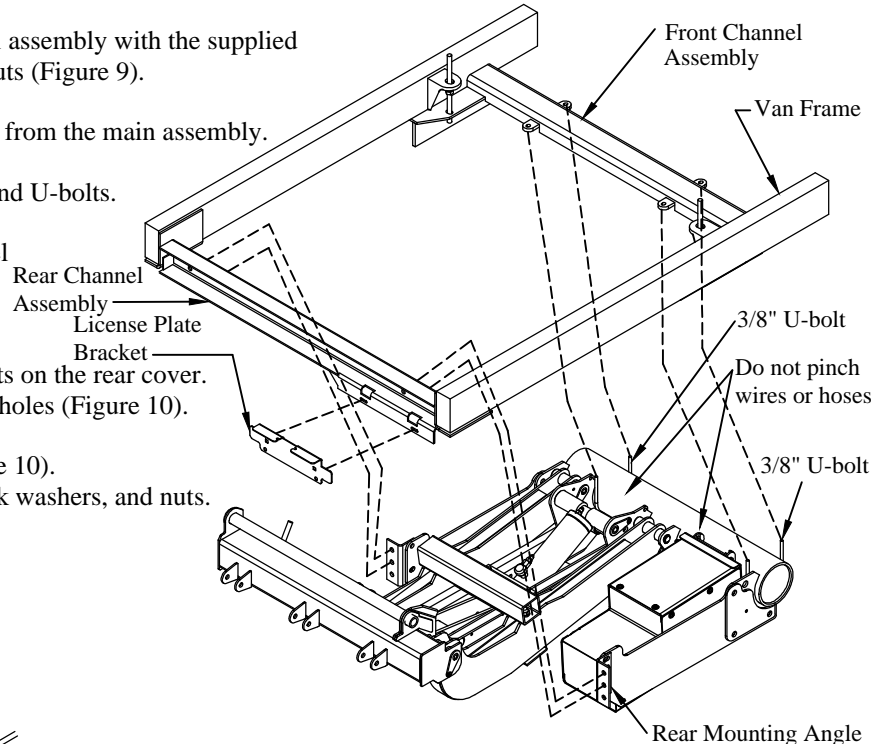

Figure 9: Main assembly position on frame.
5. **Attach** the 3/8" U-bolts to the front channel assembly with the supplied four (4) flat washers, lock washers and nuts.
6. **Attach** the rear mounting angles to the rear channel assembly with the supplied four (4) 1/2" x 1-1/4" bolts, lock washers, and nuts (Figure 9).
10. **Install** the license plate bracket on the rear channel assembly (Figure 9). Use the two (2) supplied 1/4-20 flat head bolts and keps nuts.